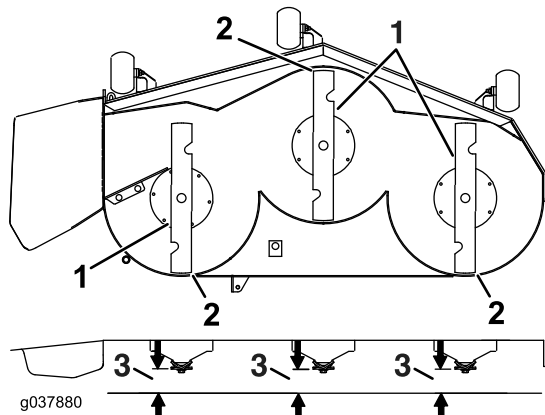

Figure 100
7. Check the front-to-rear blade level (Figure 100). Ensure the front blade tip is lower than the rear blade tip as shown in the block height and rake table. If adjustment is needed, continue with this procedure.